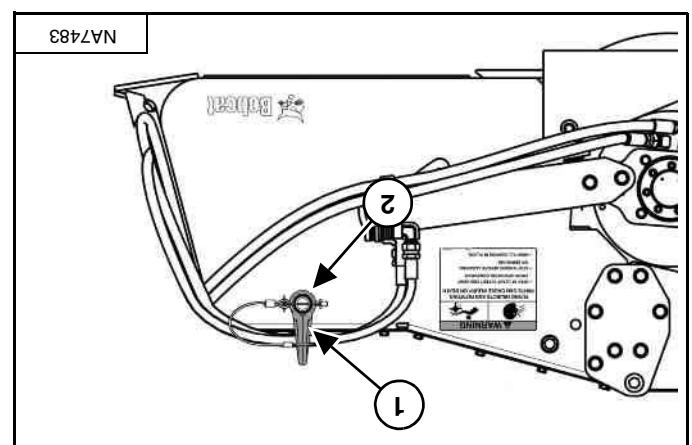

Figure 51
When the sweeper is not connected to the loader, install the removable hose guide (item 1) onto the storage post (item 2) [Figure 51] (if equipped).